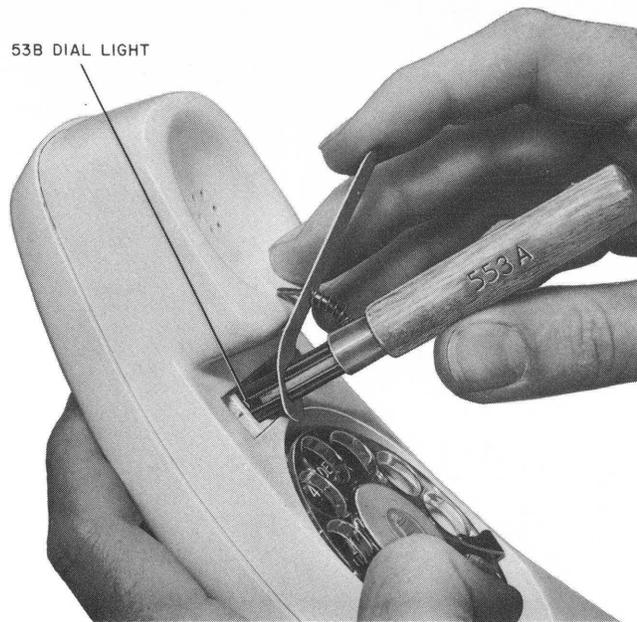

Fig. 6 — Replacing Dial Light
**4.06** To replace a defective dial lamp (Fig. 6), use 553A tool or long-nose pliers. To gain access to the lamp, remove number card retainer, number card, and light-seal plate.